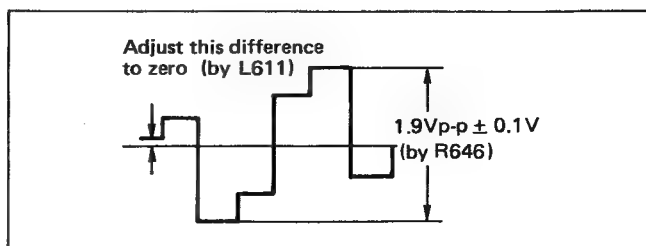

Fig. 38
- 7) Adjust R646 and L611 to achieve waveform shown in Fig. 38.